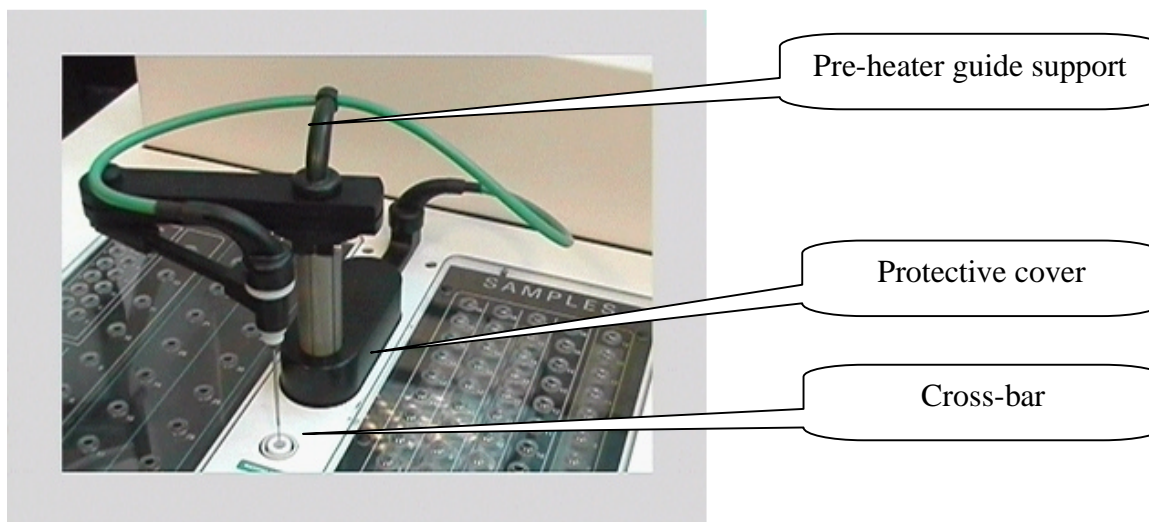

Fig.1
4. Unscrew the four cross bar fastening screws. Remove the cross bar by slipping out the Pre-heater guide support (Fig.1).